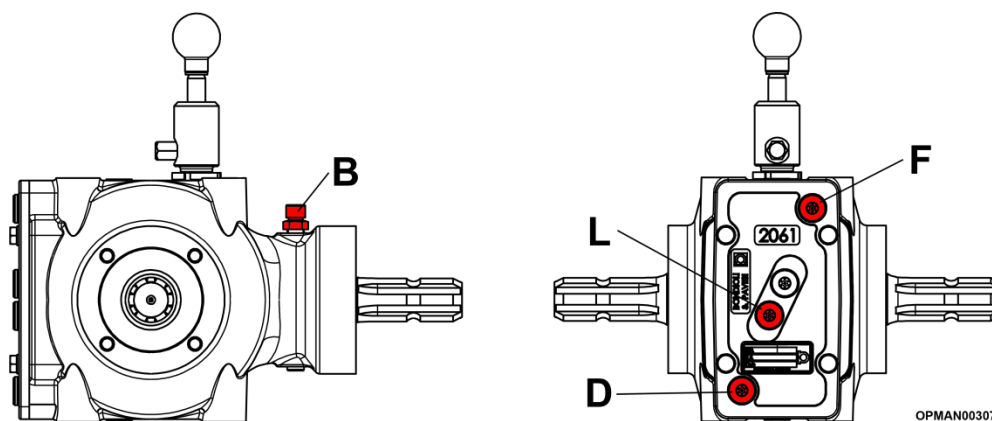

Figure 5.2 – Trident Gearbox
To drain the oil, each of the gearboxes is fitted with a **drain plug**. The location of the drain plug is given in Figure 5.2 (D). If there are facilities to vacuum draw the oil out of the respective gearbox, the oil can be changed through the fill hole/dipstick location instead; see Figure 5.2 (F).
The gearbox should not require additional lubricant unless the box is cracked or a seal is leaking. It is recommended that the oil level is **checked every day before operation**. Additional oil should be added through the **fill hole with the level plug removed**; see Figure 5.2 (L). Keep filling until oil escapes out of the level hole, **before proceeding to use the machine**. There are two holes at the centre of the gearbox. The level plug is always the lower of the two plugs. Replace and tighten all plugs before using the machine.